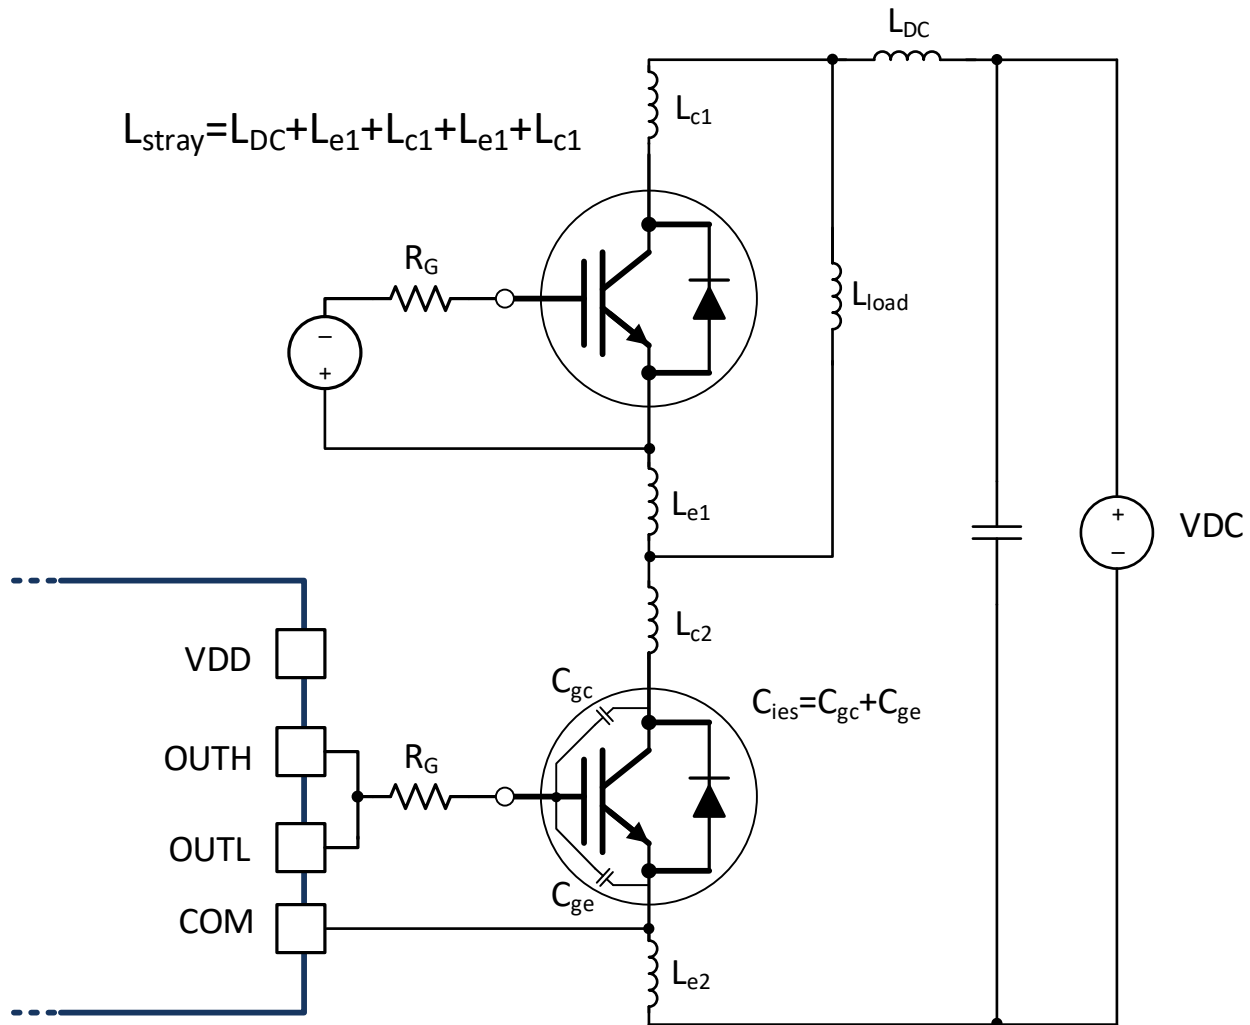

Figure 51. Stray Parasitic Inductance of IGBTs in a Half-Bridge Configuration
- $L_{\text{stray}}$  is the stray inductance in power switching loop, as shown in Figure 51